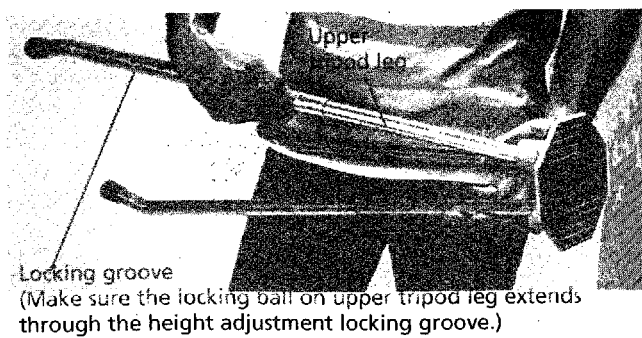

Figure 8. Adjust the tripod legs.
- Adjust the tripod legs to the desired height (see Figure 8). We recommend the highest setting for setup.